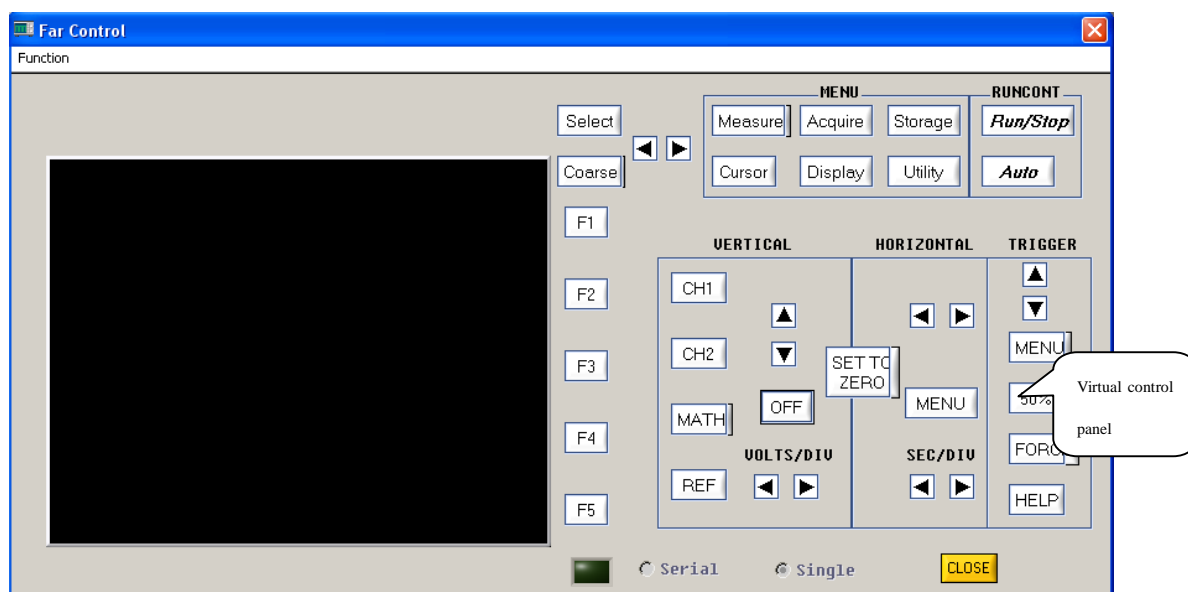

Fig 2-7
- ◆ **Remote control :** You can operate the digital storage oscilloscope on remote control with the communication and control software. In the remote control mode, the computer screen will display a virtual instrument control panel which is fundamentally the same as the oscilloscope control panel, as shown in Fig 2-7.